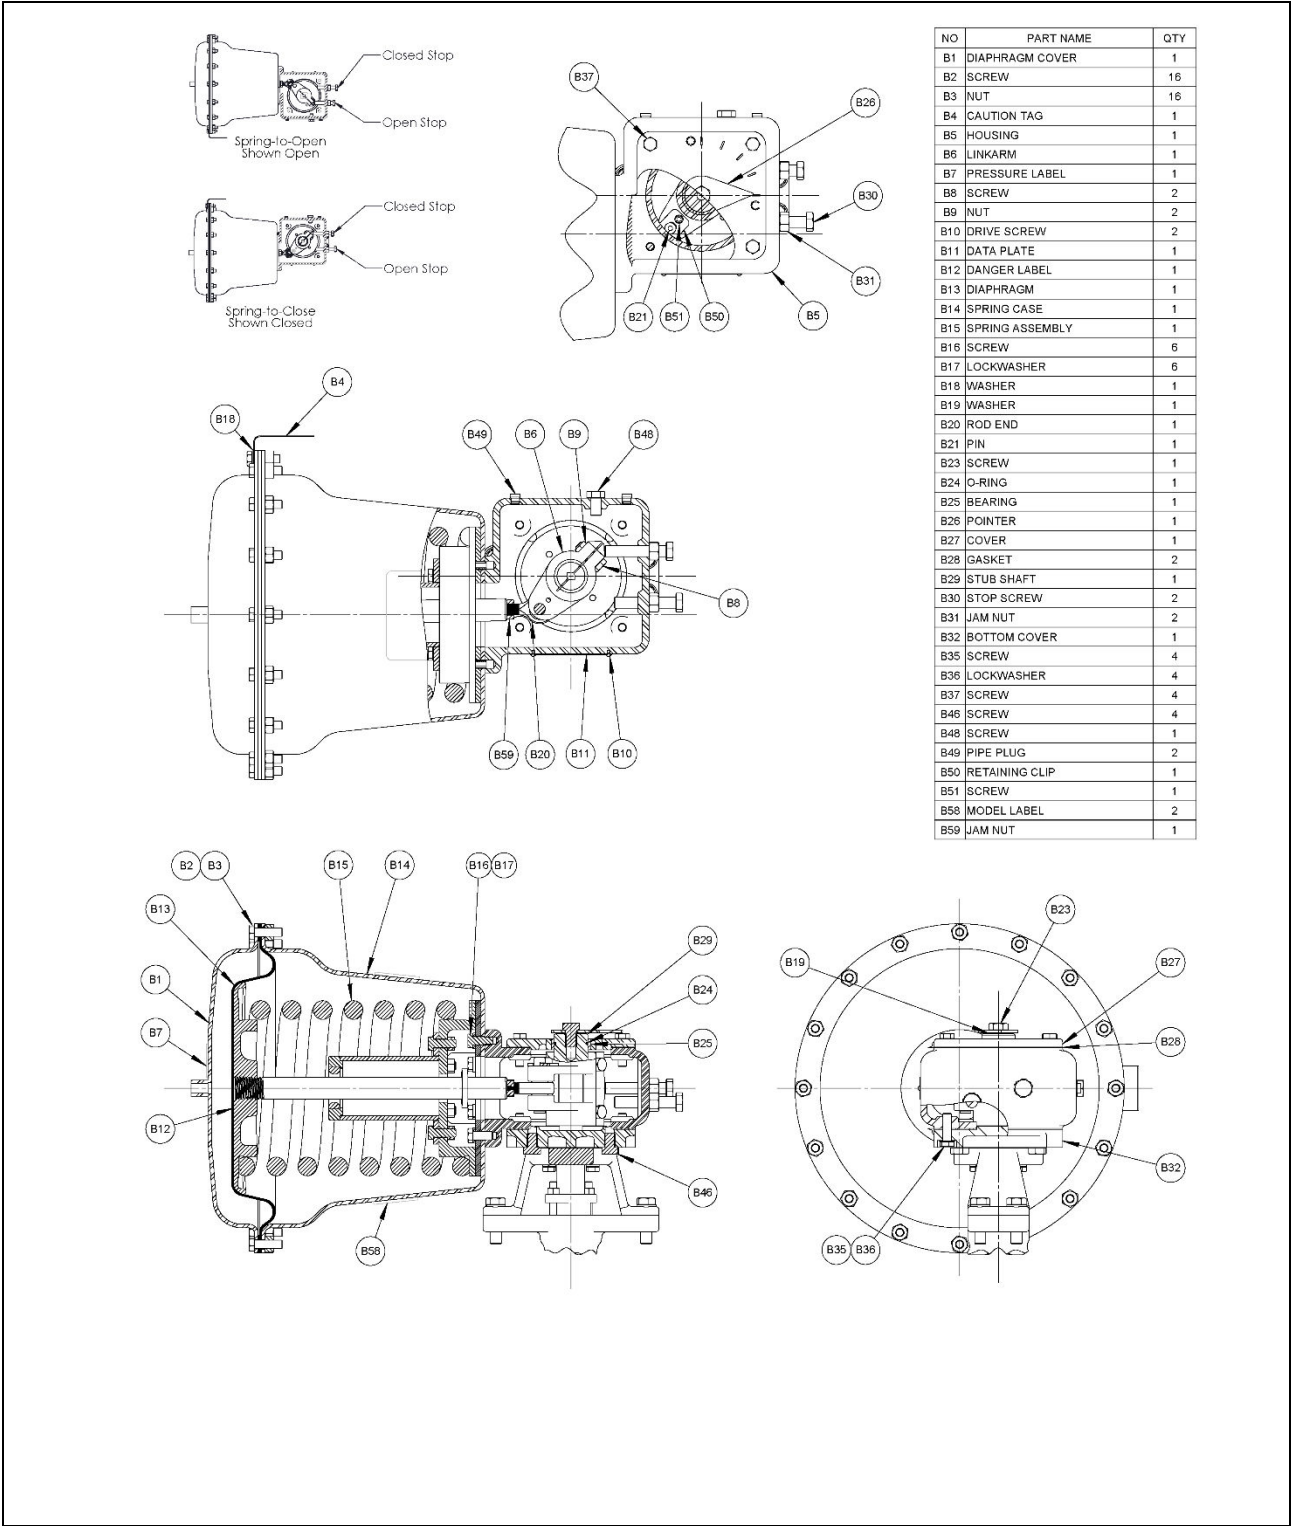
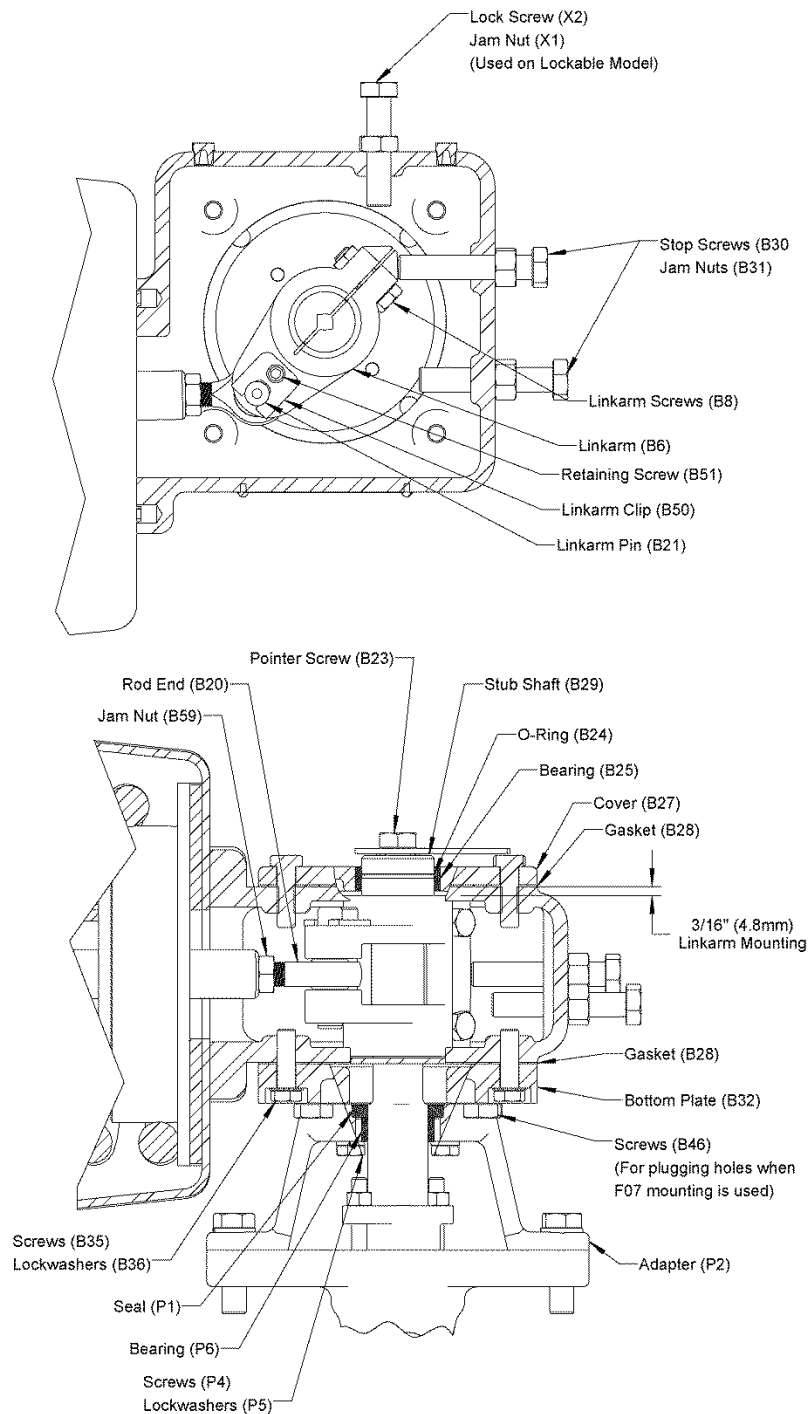

Figure 1—Parts Identification
Figure 1A—Parts Identification
One pneumatic signal line connection is required to the ¼ NPT port on diaphragm cover (B1) shown in Figure 1. The pneumatic signal pressure must equal—but not exceed by more than 10 psi (70 kPa)—the spring rating of 35 or 60 psi (240 or 410 kPa) as shown on the actuator label.
For high vibration installations, additional mounting support is recommended on the diaphragm end of the actuator to prevent damage to the actuator and/or the piping system. Mount the support from the pipeline to at least two of the diaphragm cover screws (B2) shown in Figure 1. Tighten the screws to 18 ± 2 foot pounds (24 ± 3 Nm).
The actuator is powered pneumatically, and rotates 90 degrees between the open and closed positions. The action of the actuator is either spring-to-close or spring-to-open, as determined by which side of the actuator is mounted to the valve, as shown in Figure 1. The action selected is shown on the actuator label. With spring-to-close, increasing pressure to the actuator opens the valve, and decreasing pressure closes the valve; with spring-to-open, increasing pressure closes the valve, and decreasing pressure opens the valve.
The open and closed position stops are the two hex head screws (B30) shown in Figure 1. The stops are adjustable and prevent the actuator from rotating beyond the open and closed positions of the valve. If the actuator is factory-mounted on the valve, the stops are preset and do not require further adjustment.
If the actuator is not factory-mounted on the valve, or if the actuator is removed and/or disassembled, the stops will require adjustment as described below. Refer to the valve instructions for closed-position information, and adjust the stops with the actuator mounted on the valve. Refer to Figure 1 for component identification.
2. Loosen the jam nut (B31) on the appropriate stop screw (B30). Refer to Figure 1.
Refer to Figure 1 and 1A for component identification.
- Position the link arm (B6) 3/16" (4.8 mm) below the top of the actuator as shown in Figure 1A. Tighten the two link arm screws (B8) to 38 ± 5 foot pounds (52 ± 7 Nm).
Refer to Figure 1 for parts identification.
Refer to Figure 1 and Figure 1A for parts identification.